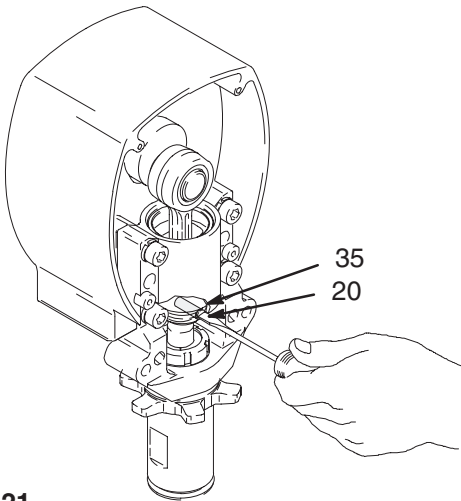

Fig. 21
3. Fig. 21. Use screwdriver to push retaining spring (35) up and pin (20) out.
4. Fig. 21. Push out pin.